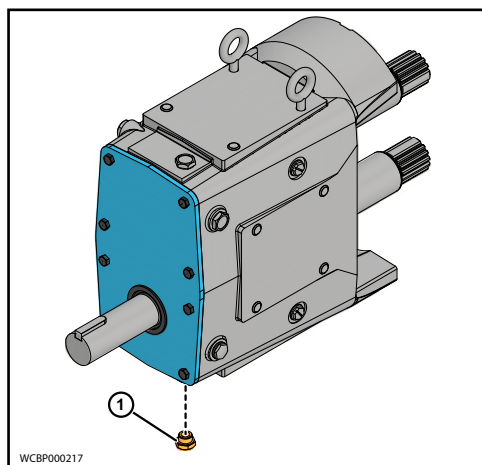

Figure 89 - Install Oil drain Plug
6. Install the oil drain plug (1), as shown in Figure 89.